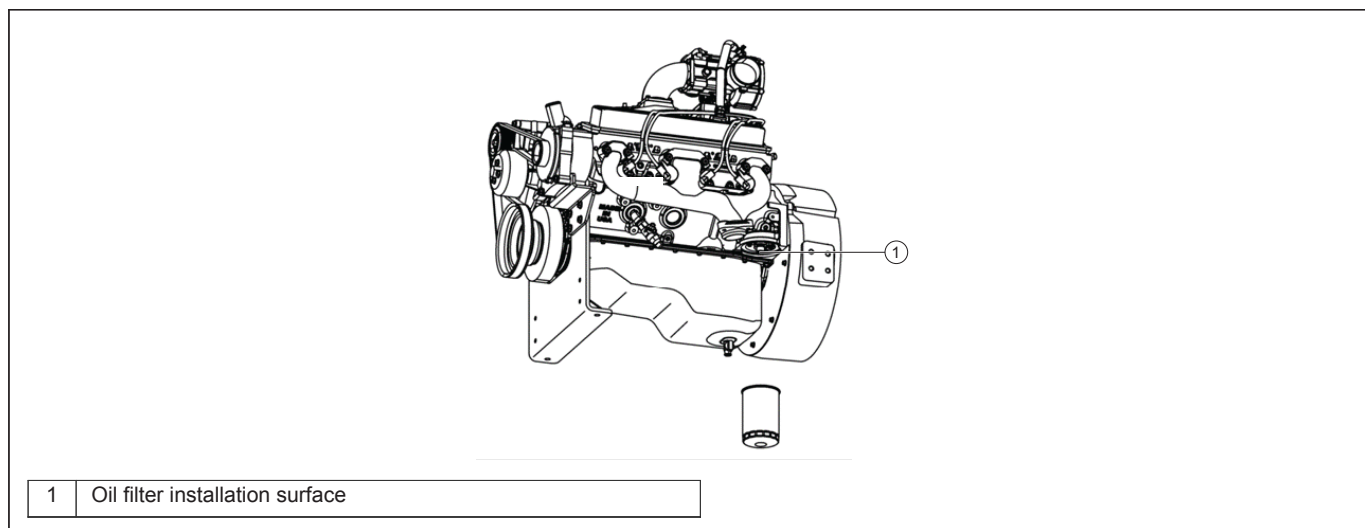

Figure 23: Oil Filter Installation Location
5. Wipe the oil filter installation surface clean with a dry cloth. Inspect the installation surface for damage. See Figure 23.